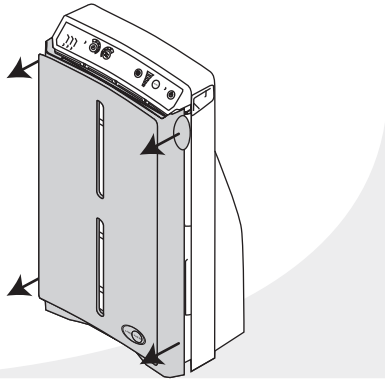

FIG. 24
2. **Remove** the front cover from the Air Purifier using the finger tabs located on each side of the Air Purifier – near the top (Fig. 24). **Steady** the Air Purifier by first placing your thumbs on the outside edges of the control panel. **Remove** the front cover by **gently pulling** on the tabs with your fingers. Then, **pull off** the bottom of the cover.